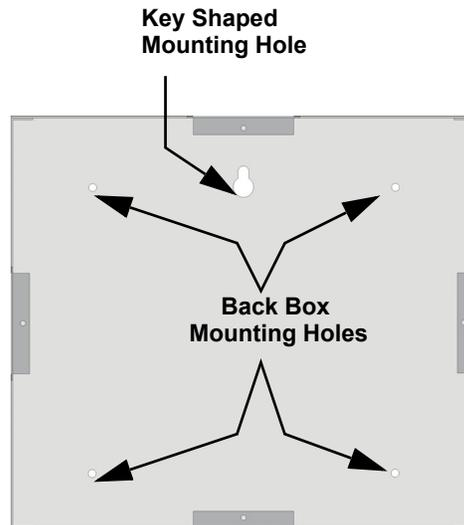

Figure 4.19 Back Box Surface Mount Holes
2. To properly mount the back box, insert a single screw into the key shaped mounting hole. Do not tighten all the way. See Figure 4.19.